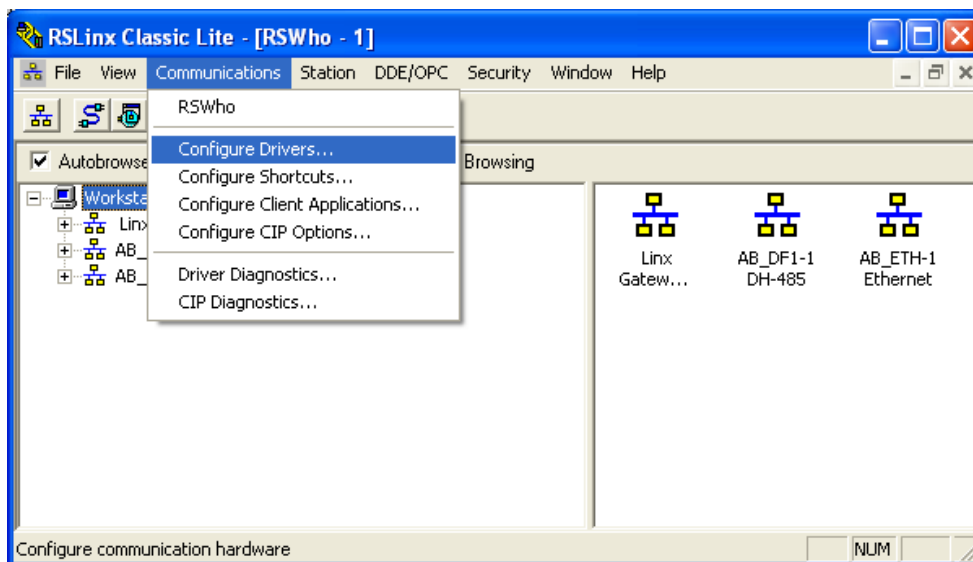

Figure 58: RSLinx Configuring Drivers
- a) Start RSLinx and navigate to Communications->Configure Drivers (see Figure 58).